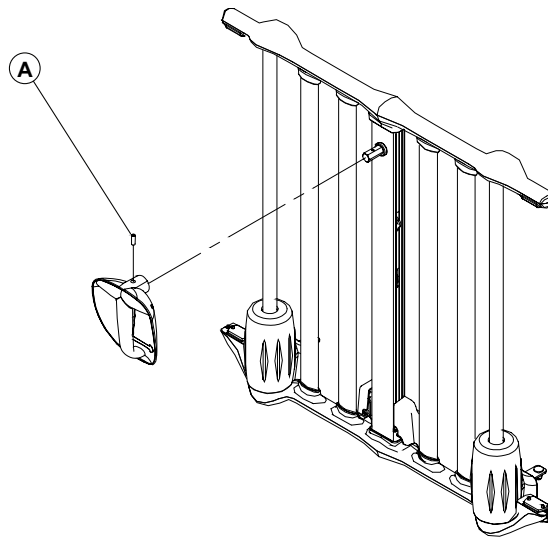

Figure 26 – Handle replacement
- Using a 3/32" Allen wrench, remove the set screw (A) that secures the handle assembly to the shaft (Figure 26). Remove and discard the handle assembly.
15. Using a 3/32" Allen wrench, remove the set screw (A) that secures the handle to the central column shaft (Figure 26). Save the screw. Remove the handle and install it on the new central column.
15. Using a 3/32" Allen wrench, remove the set screw (A) that secures the handle to the central column shaft (Figure 26). Remove and save the handle.